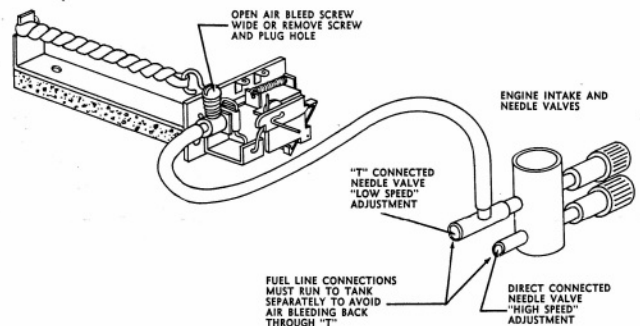

Figure 2
2. The second method of operation (Figure 2 below) is with two needle valves installed in the engine. With this method of operation, the "T" is connected into one or the other needle valve lines. Under this setup, the directly connected needle valve becomes the high speed jet and the "T" connected needle valve acts as a secondary fuel flow or low speed jet. The tuning procedure with this method of operation is to open fully the screw adjustment on the escapement. The engine is then started and run with the bleed valve open. The mixture is adjusted for high speed with the directly connected needle valve. The escapement is then pulsed to close the bleed valve and the second needle valve is then adjusted to provide a low speed mixture.